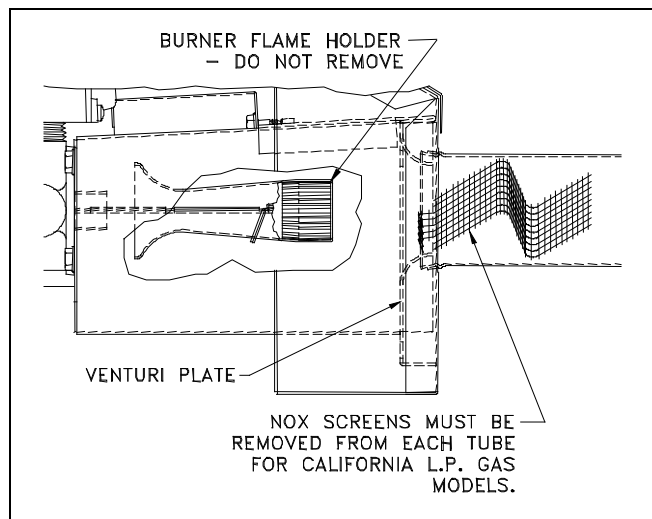

Figure 28. California NOx Screen Removal.
NOTE: NOx reducing screens must be removed from each tube of California NOx furnaces when converting to propane (LP) gas. See Figure 28.